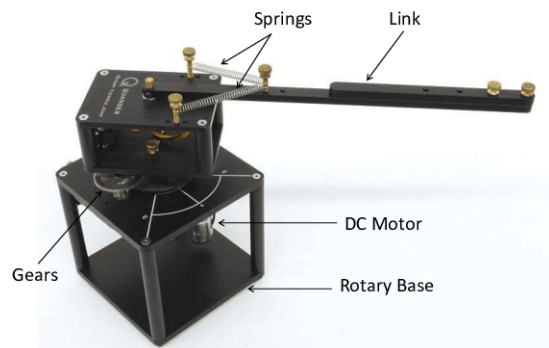

Figure 3: Flexible joint robotic arm by Quanser
8. New advancements in material technology and robotics, combined with the increasing demand of lightweight and portable robotic arms, have driven research into the design and control of flexible robotic manipulators. Flexibility comes from the use of plastic or carbon-fiber frames, which significantly reduces the cost of manufacturing and the power consumption of the system. But with flexibility come a varying degree of inaccuracies in the robotic arm such as increased settling time, especially at the end point. Figure 3 illustrates a hardware platform with a flexible joint module developed by Quanser. The transfer function of the system is